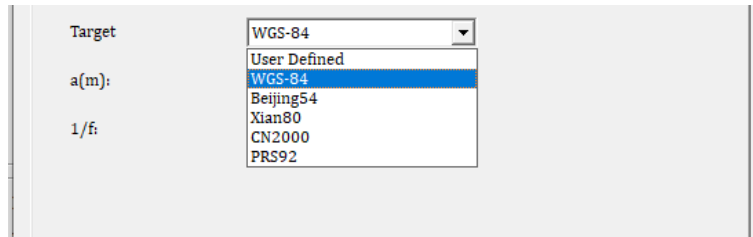

Figure 6.11 Target Ellipsoid Setting
(1) Ellipsoid Parameters.
b) Target Ellipsoid: In the target ellipsoid, HydroSonar provides options of WGS-84, Beijing 54, Xi'an 80 and National 2000 coordinate systems, PRS92 and User Defined as shown in Figure 6.11.